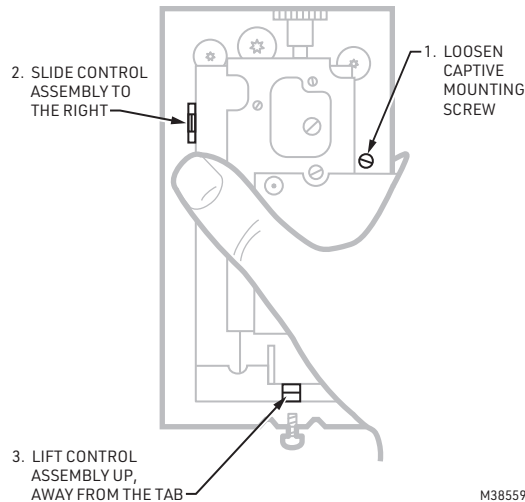

Fig. 3. Mounting the controller on the backplate.
2. Attach the H600A to the mounting plate by slipping it under the tabs (Fig. 3) and tightening the captive mounting screw.